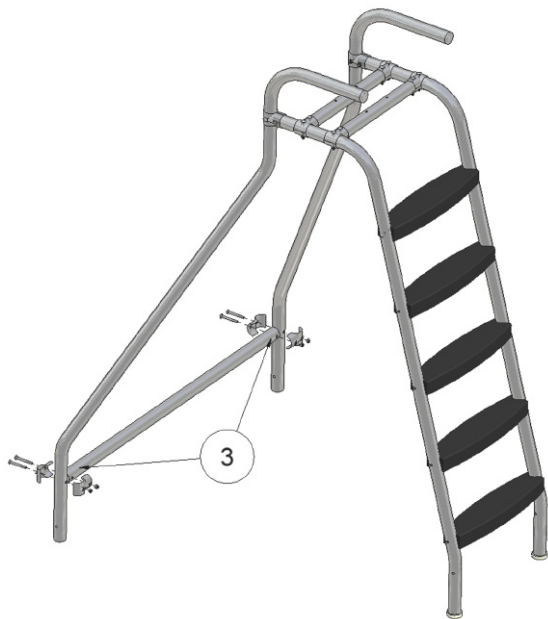

Fig. 10
Step 7) Connect the rear support brace to the two rear support rails using two split tees at the joints *labeled 3*. Loose assemble. **See Figure 10.**